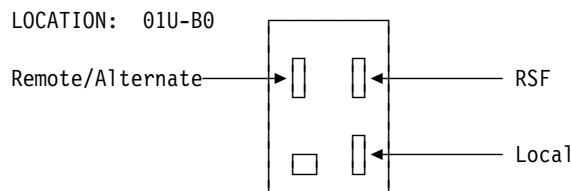

Figure 8-4. Console Tailgate
- a. Install the console wrap tool (P/N 6398697) in the remote/alternate console connector at 01U-B0 (see Figure 8-4).
- a. Install the console wrap tool (P/N 6398697) in the RSF connector at 01U-B0 (see Figure 8-4).